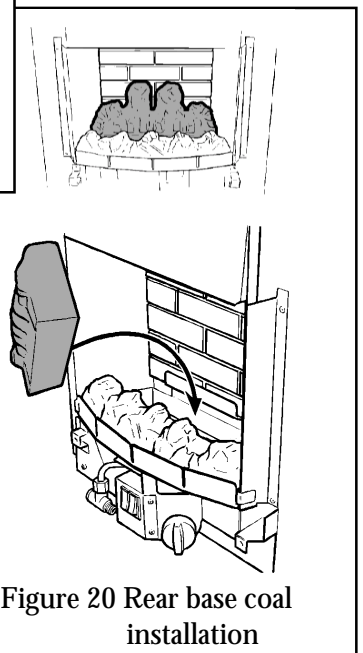

Figure 20 Rear base coal installation
10.3 Place the rear base coal in the burner compartment behind the front coal. Its rear face should touch the rear ceramic wall (See figure 20).